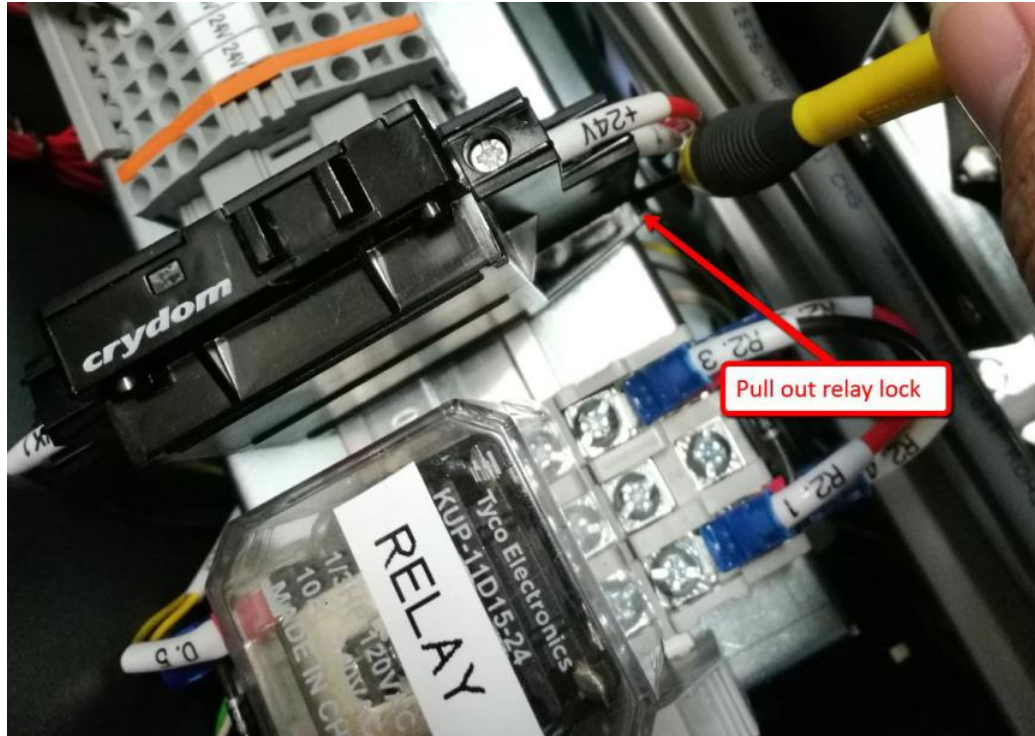

Figure 6 Relay Removal
- ii. Unlock and remove Relay 1 as shown in Figure 6